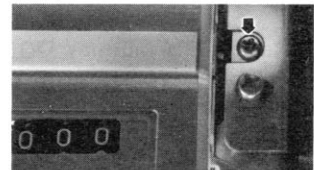

Fig. 15
- 3) Remove 2 screws. (Refer to Fig. 15 and Fig. 16)